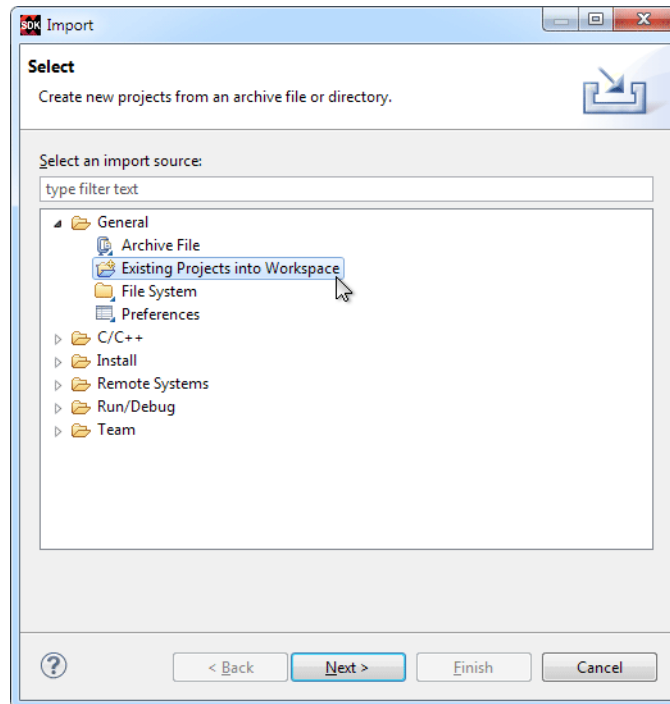

Figure 7: Import Existing Projects into Workspace
- Select **General > Existing Projects into Workspace** (Figure 7).